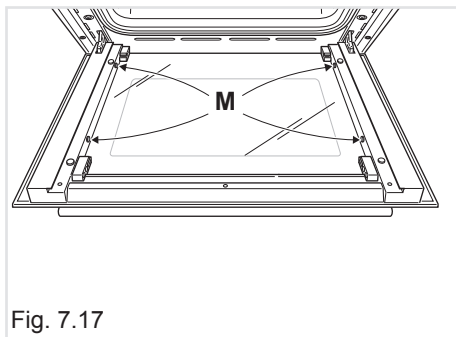

Fig. 7.17
- Check that the four rubber pads are in place ("M" in fig. 7.17).